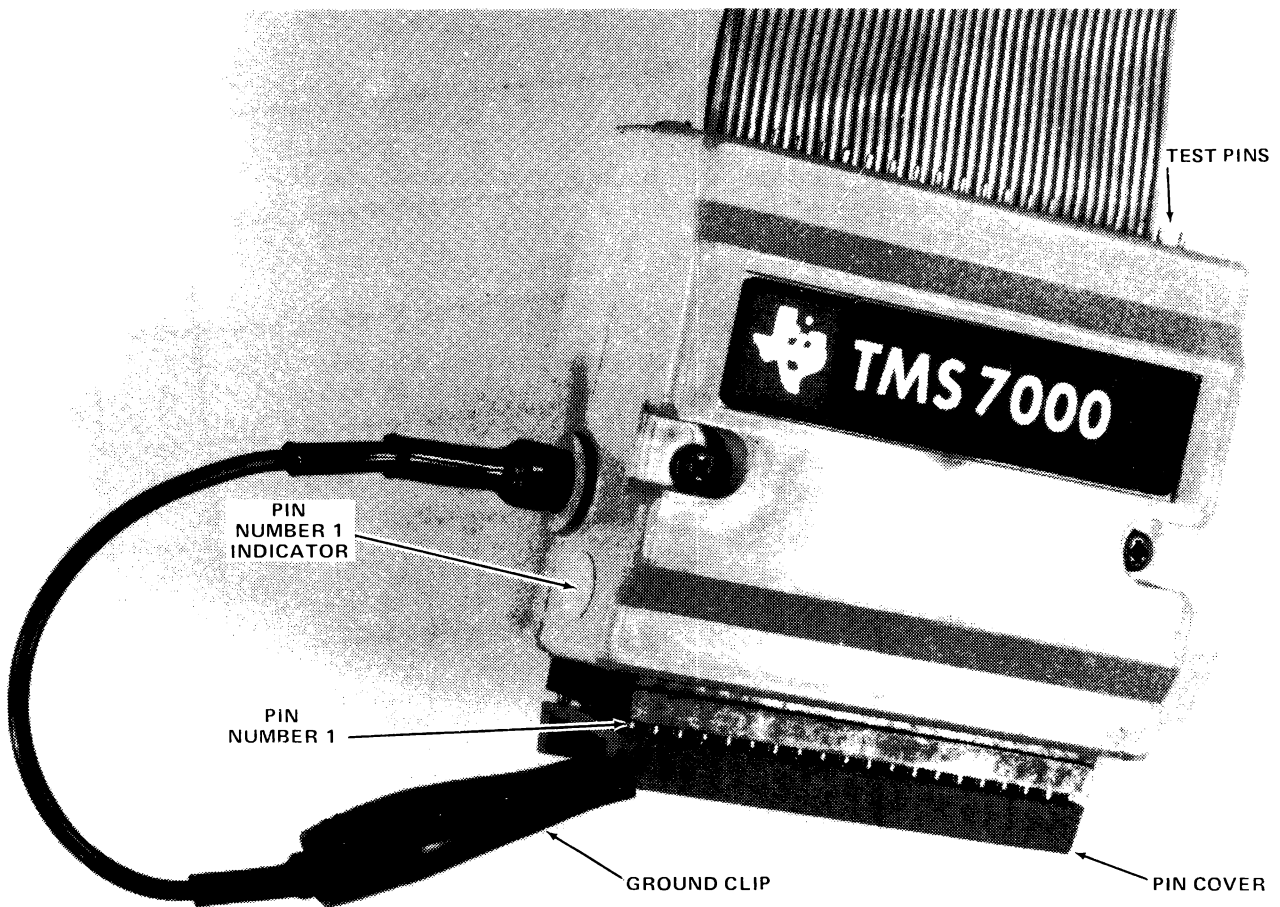

Figure 2-1 Target Connector With Pin Cover in Place
1. The yellow dot on the target connector, references the location of pin 1. Figure 2-1 shows the location of the yellow dot with respect to pin 1.